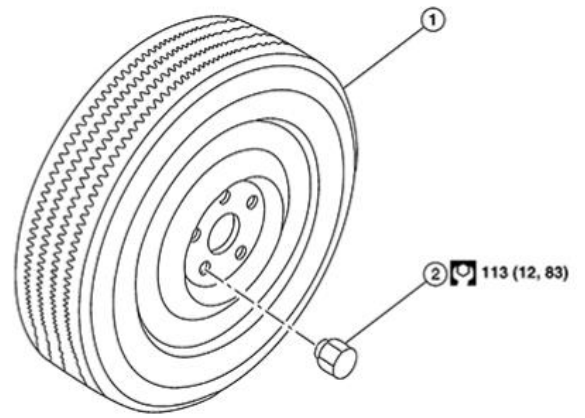

Figure 21
20. Install right front wheel and tire assembly (Figure 21).